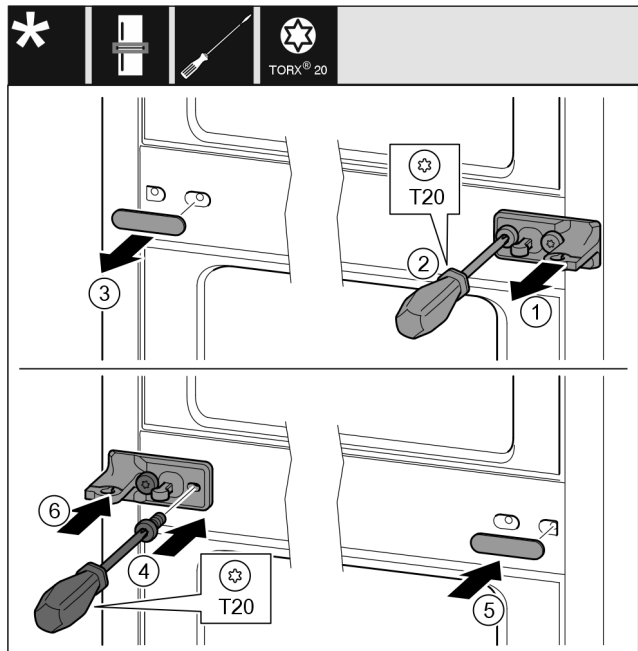

Fig. 11
- Take off the washer. Fig. 11 (1)
- Remove the screws with a T20 screwdriver. Fig. 11 (2)
- Take off the cover carefully. Fig. 11 (3)
- Screw the bearing bracket and the film rotated 180° firmly onto the other side. Fig. 11 (4)
- Attach the cover rotated 180° onto the other side. Fig. 11 (5)
- Push the washer on from the front. Fig. 11 (6)